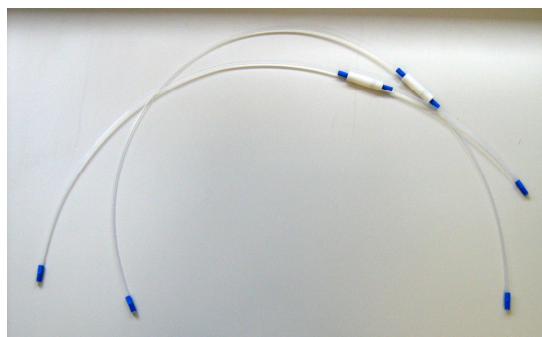

Figure 2: De-bubbler lines
1. Measure the two de-bubbler lines (*Figure 2*) and select the shortest one.